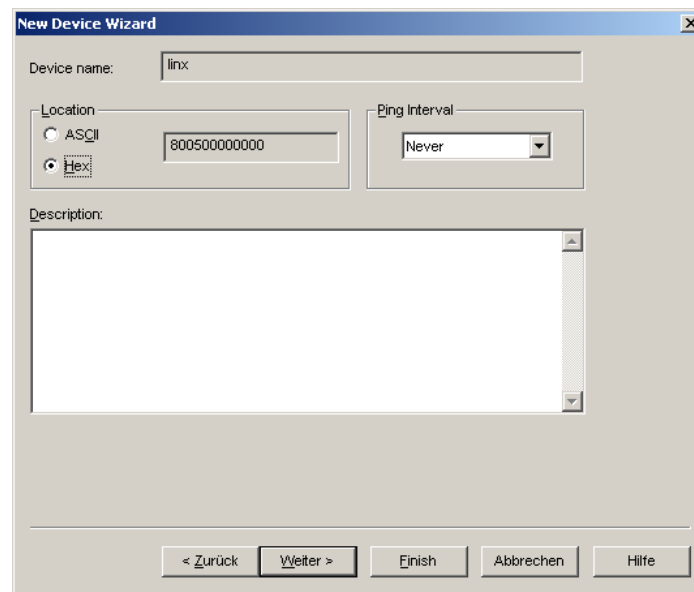

Figure 89: Leave defaults for Location.
5. The following dialog shown in Figure 89 appears, click **Next**.